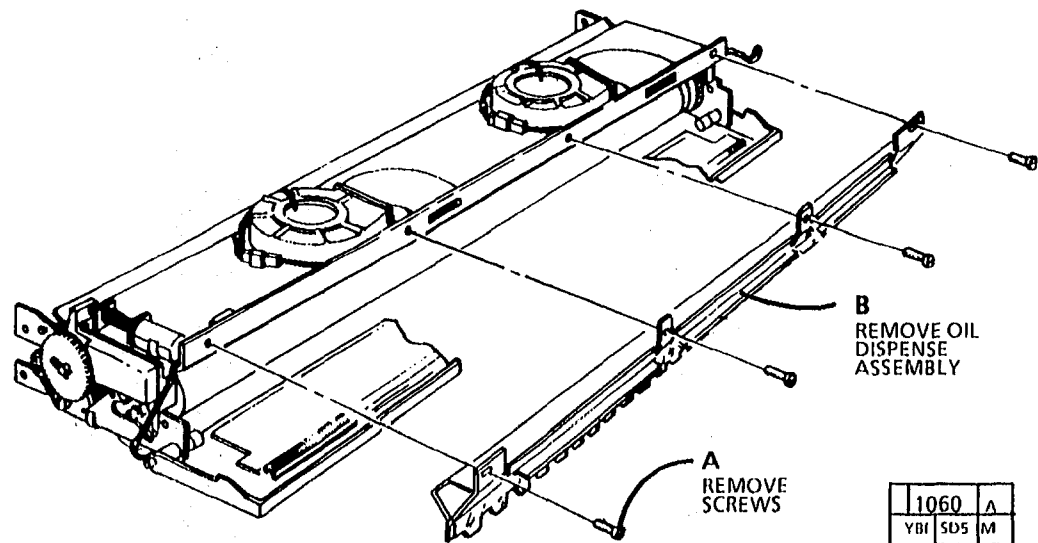

Figure 3. (2510 only) Remove the Oil Dispense Assembly
2. (Figure 3 and 4): Remove the oil dispenser assembly.